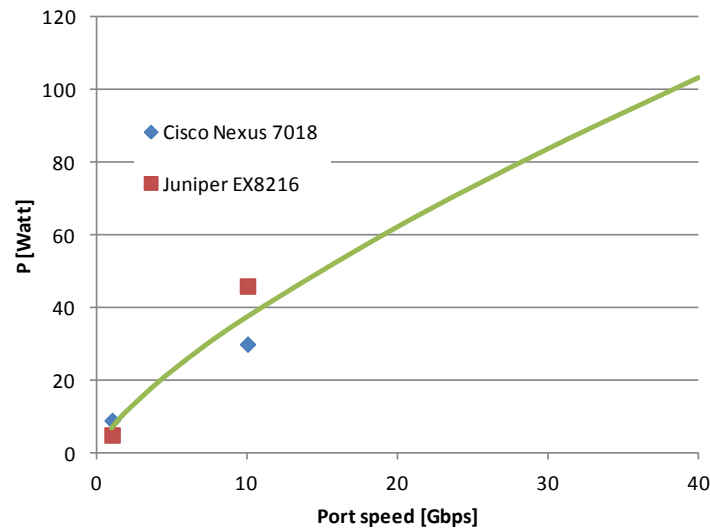

Figure 1 Power consumption of the Ethernet layer interfaces, per port
- The typical power-per-port values, including chassis overhead, are plotted in Figure 1.